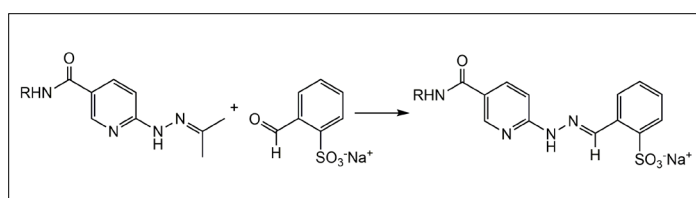

Figure 2: Colorimetric reaction used to quantify number of HyNic moieties on a biomolecule.
- The molar substitution ratio (MSR) can be determined using a colorimetric reaction outlined in Figure 2. Addition of 2-sulfobenzaldehyde to a HyNic-modified biomolecule yields a bis-aryl hydrazone that absorbs at 350 nm. Refer to the HyNic-Protein MSR Calculator as well as the protocol that is appropriate for your lab equipment: HyNic Protein MSR Instructions.